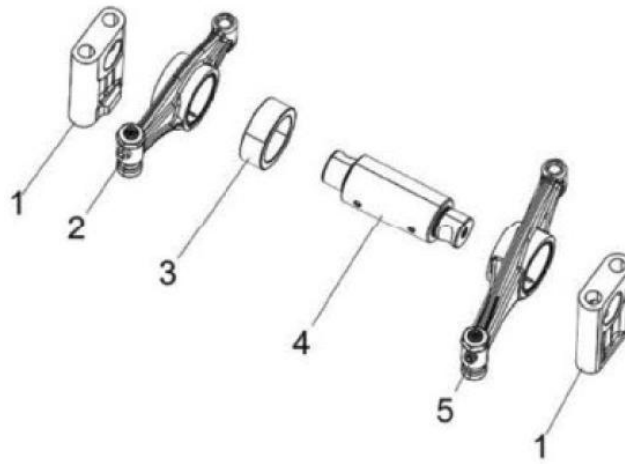

Figure 69. Rocker Arm Assembly
1. Lubricate the rocker arm shaft. Slide the rocker arm supports (Figure 69, Item 1), and rocker arms (Figure 69, Items 2 & 5) onto the shaft.
- Align the hole in the rocker arm shaft (Figure 69, Item 4) and the hole in the rocker arm support (Figure 69, Item 1).
3. If removed, reinstall the valve adjusting screws (Figure 69, Item 3) and the lock nuts (Figure 69, Item 1).